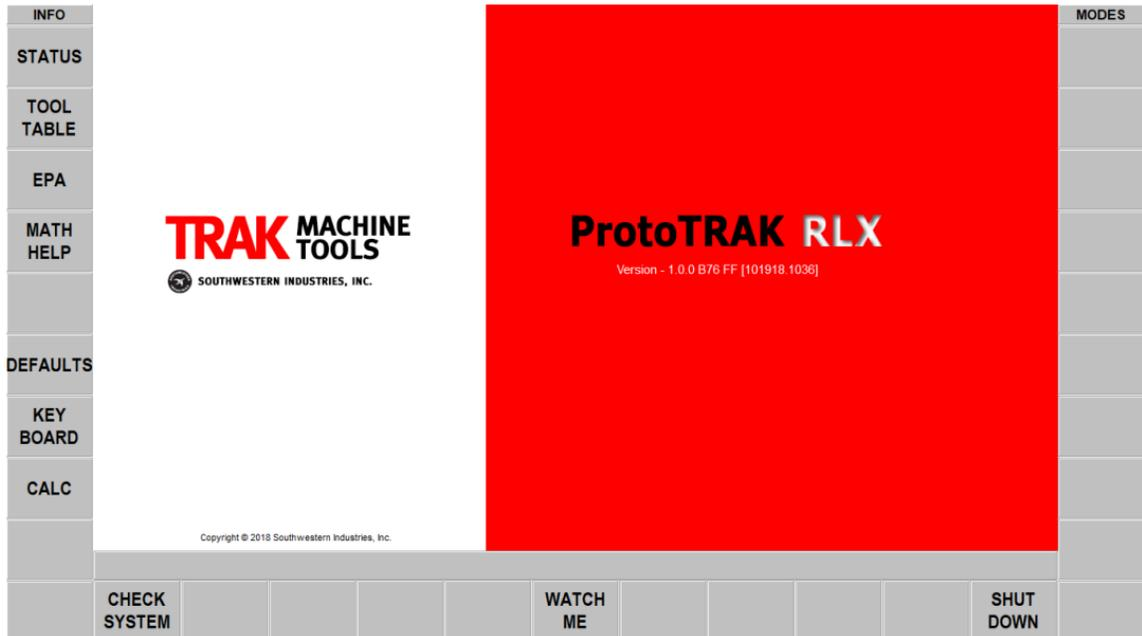

Figure 1
1. Rotate the main power switch at the rear of the machine to the ON position. The control screen will go through its boot sequence and eventually display the main control screen (Figure 1).